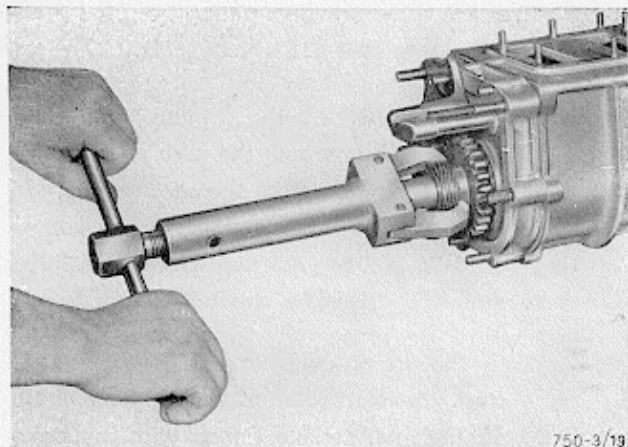

Fig. 19 - Removal of the driven reverse pinion from the gear-box primary shaft, using tool 6121.12.062
- 8) Remove the driven reverse pinion from the primary shaft, using tool 6121.12.062 (fig. 19).